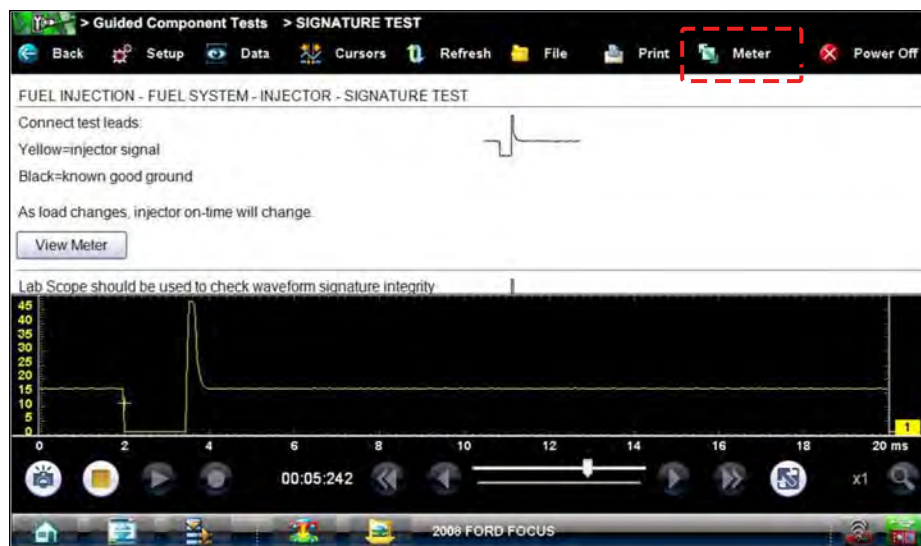

Figure 7-10 Sample view meter window
- **View Meter**—opens a live meter set up to perform the test in the lower portion of the screen (Figure 7-10). Once the meter view is open, the Guided Component Test toolbar at the top of the screen is replaced by the Scope Multimeter toolbar, which allows you to make adjustments to the settings. See Scope Multimeter Toolbar on page 100 for details.
A Meter icon, which is only available in the Guided Component Test view meter mode, appears on the upper toolbar (Figure 7-10).
1. With View Meter active (Figure 7-10), select the **Meter** icon on the toolbar once and the meter expands to fill the entire screen.
3. Select the **Meter** icon a third time to close the separate window and return to the standard meter view as shown in Figure 7-10.